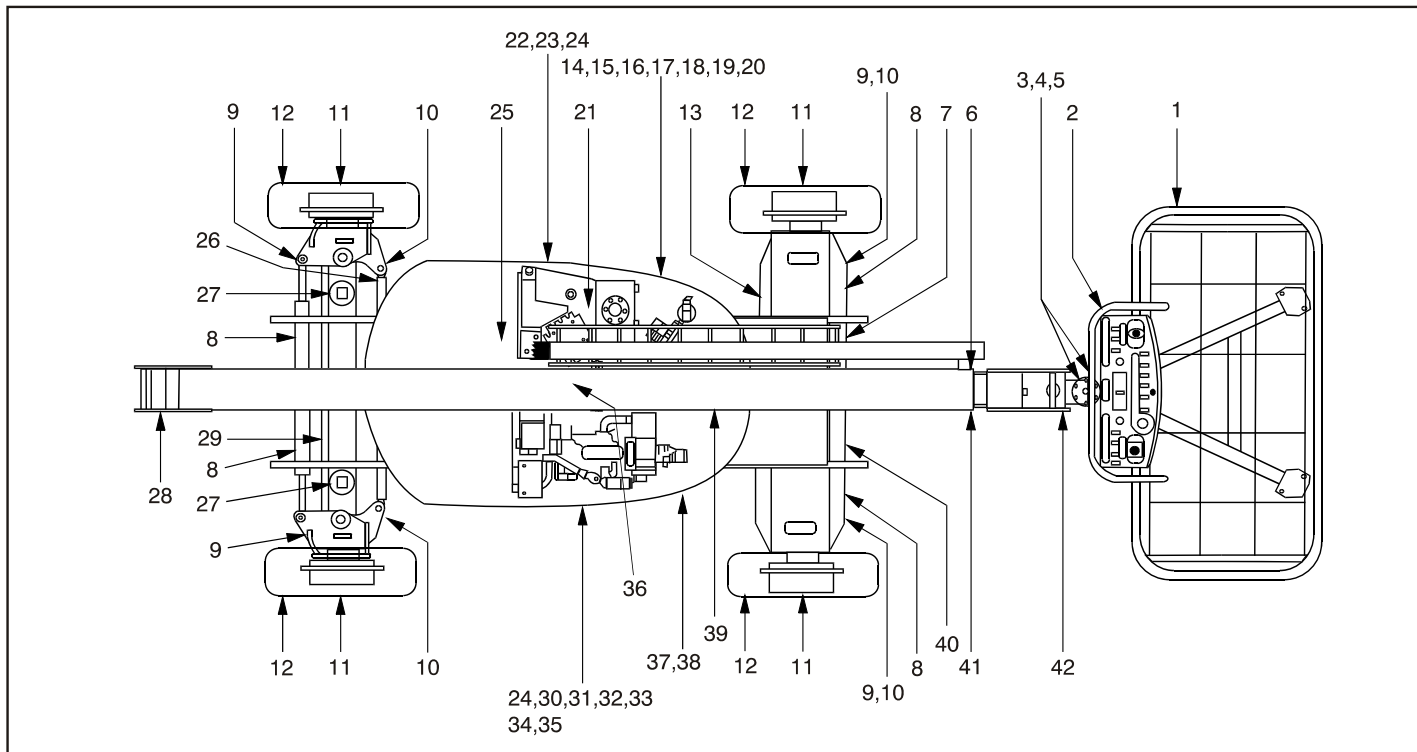

Figure 2-3. Daily Walk-Around Inspection. (Sheet 1 of 4)
5. **“Walk-Around” Inspection** – Refer to Figure 2-3. and Figure 2-4.